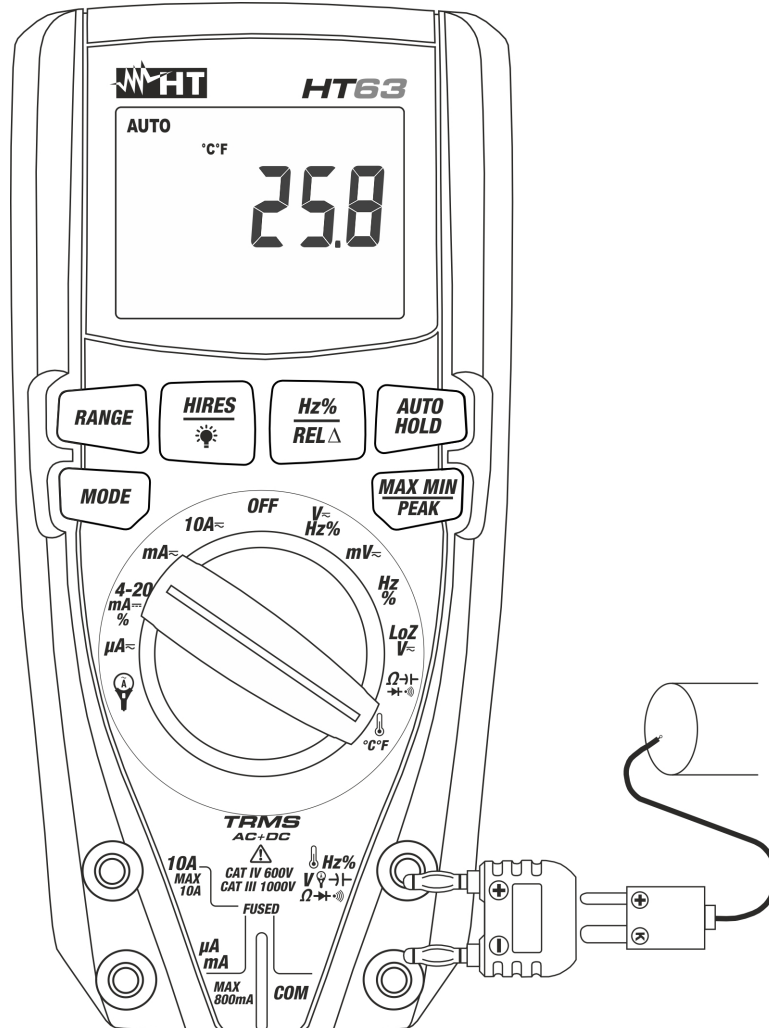

Fig. 9: Use of the instrument for Temperature measurement
3. Insert the provided adapter into input terminals Hz% V~ Ω~ (polarity +) and **COM** (polarity -) (see Fig. 9)